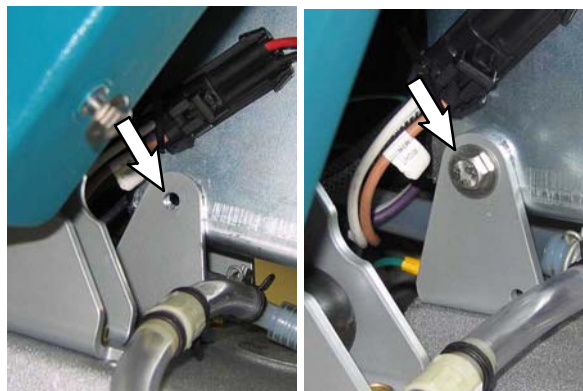

Fig. 10
9. Align and connect the actuator bracket to the scrub head using the hardware supplied with kit (Figure 10).
13. Install the cylindrical scrub head debris trough (Figure 10).